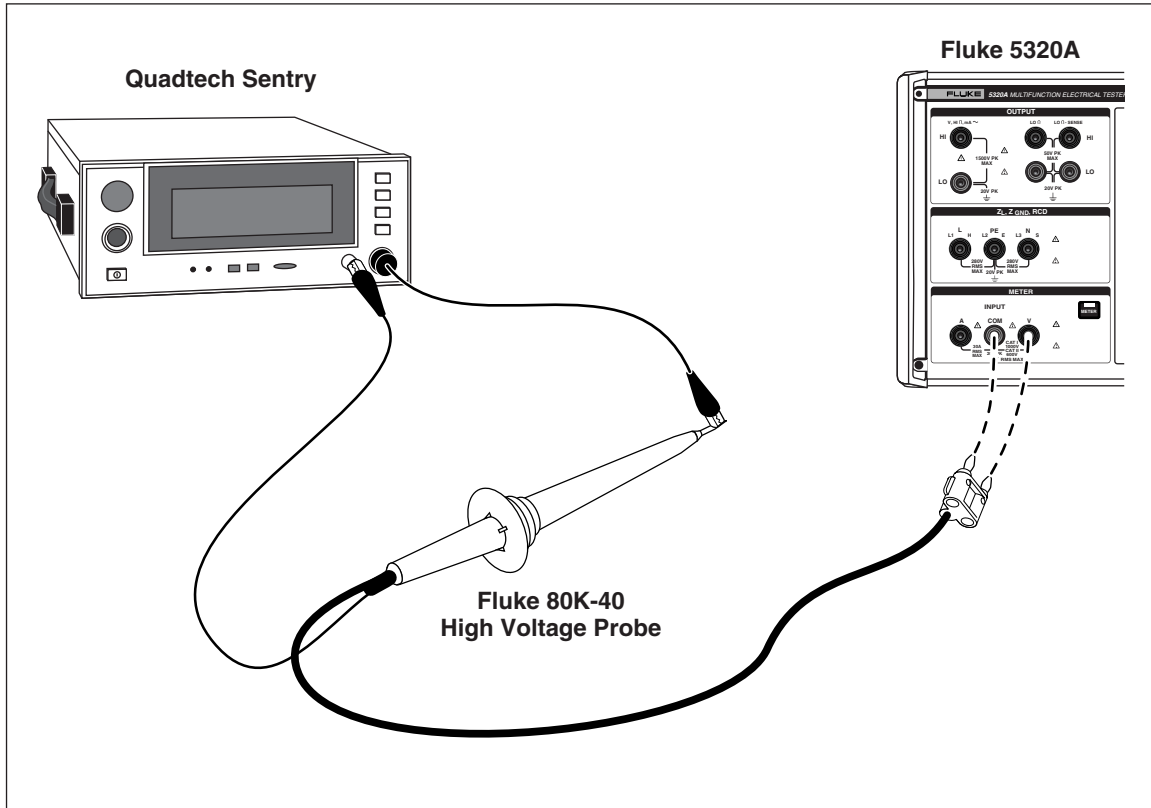

Figure 7-24. 40 kV High Voltage Probe Application
2. Using Figure 7-24, connect the UUT through the High Voltage probe and the Calibrator. Make sure to connect the ground side of the dual banana lead from the 80k-40 probe to the COM terminal of the 5320A meter.